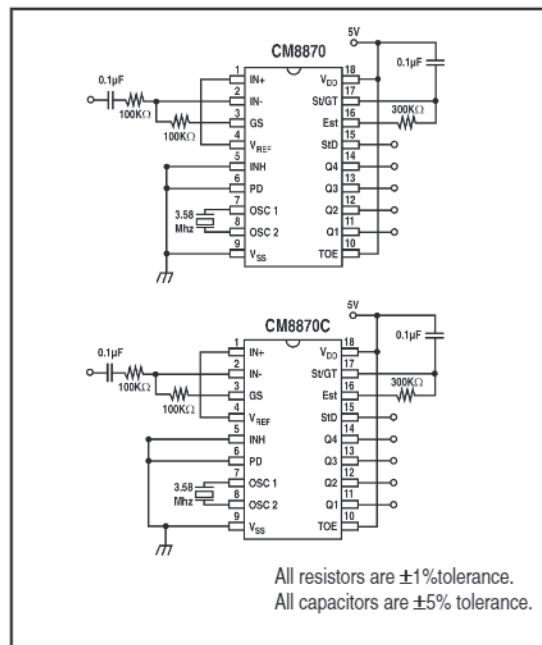
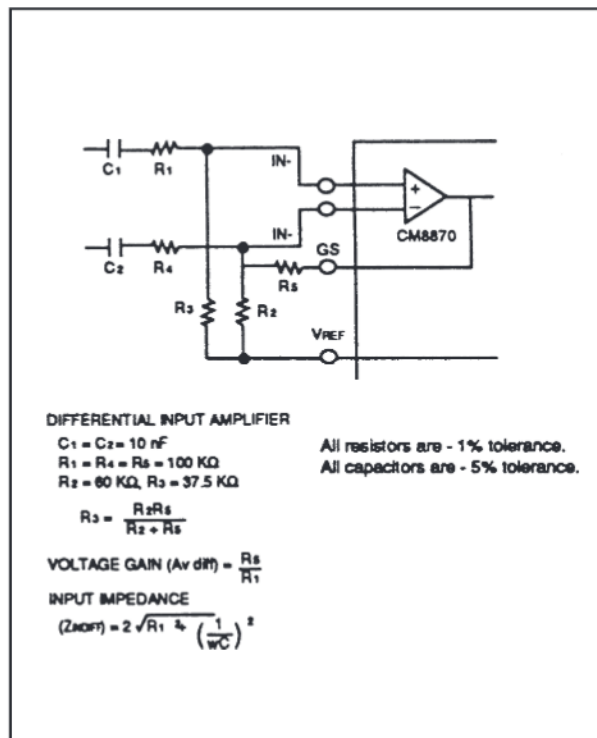

Figure 1.
Figure 6. Differential Input Configuration
14. Referenced to Figure 1. Input DTMF tone level at -28 dBm.
The value of  $t_{DP}$  is a parameter of the device and  $t_{REC}$  is the minimum signal duration to be recognized by the receiver. A value for C of 0.1  $\mu F$  is recommended for most applications, leaving R to be selected by the designer. For example, a suitable value of R for a  $t_{REC}$  of 40 milliseconds would be 300K. A typical circuit using this steering configuration is shown in Figure 1. The timing requirements for most telecommunication applications are satisfied with this circuit. Different steering arrangements may be used to select independently the guardtimes for tone-present ( $t_{GTP}$ ) and tone absent ( $t_{GTA}$ ). This may be necessary to meet system specifications which place both accept and reject limits on both tone duration and interdigit pause.
In a single-ended configuration, the input pins are connected as shown in Figure 1, with the op-amp connected for unity gain and  $V_{REF}$  biasing the input at  $\frac{1}{2} V_{DD}$ . Figure 6 shows the differential configuration, which permits the adjustment of gain with the feedback resistor R5.